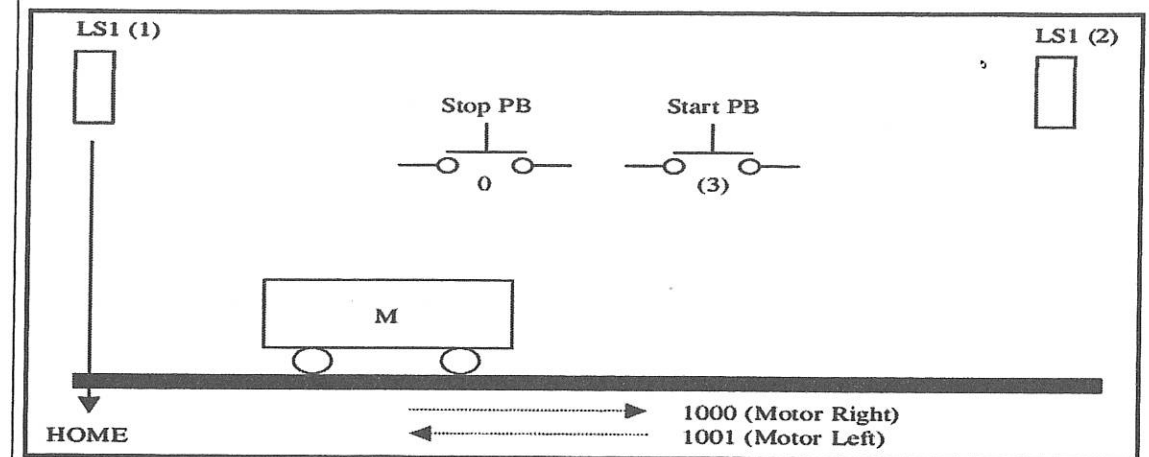

Figure A2(c) / Rajah A2(c)
- (c) Based on figure A2(c), sketch the timing sequence chart for the relay ladder logic (RLL) or hardwire system below :